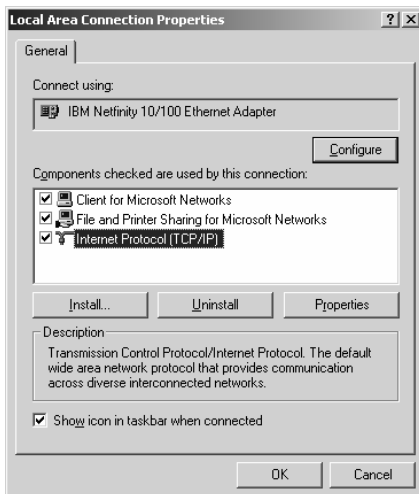

Figure 9: Local Area Connection Properties Window
5. Select the Internet Protocol (TCP/IP) and click the **Properties** Button (see Figure 9).